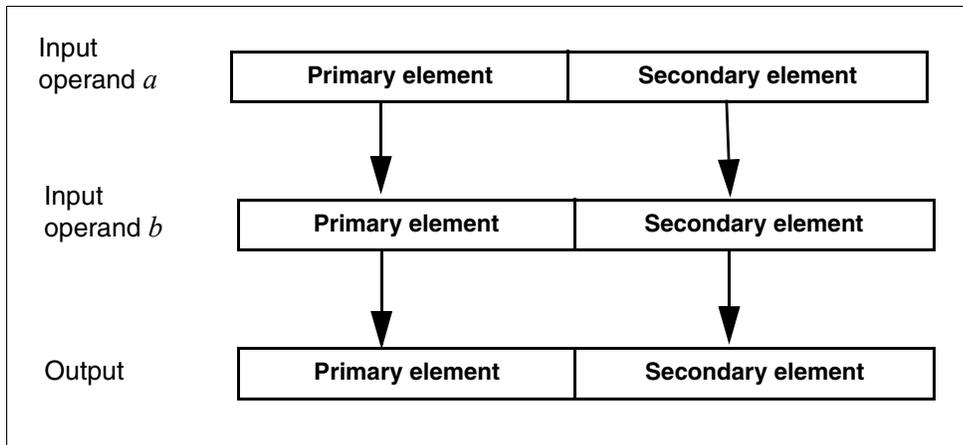

Figure 4-1 Parallel operations
*Parallel operations* perform SIMD computations on the primary and secondary elements of one or more input operands. They store the results in the corresponding elements of the output. As an example, Figure 4-1 illustrates how a parallel multiply operation is performed.